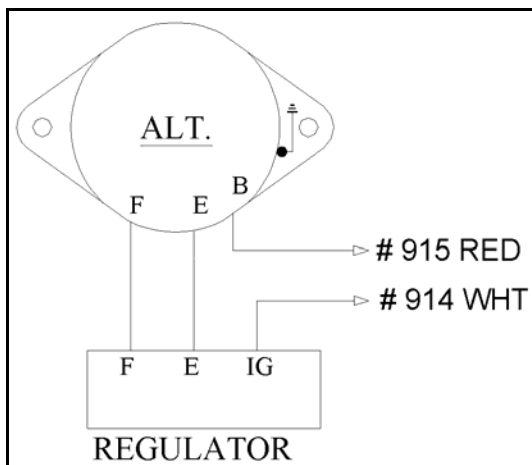

Figure 7-1 Toyota Alt. Diagram (early)
7.1 Toyota Alternator (early- 1977) See Figure 7-1
*Note: Your Alternator may not appear exactly as represented in **Figure 7-1**. The circuits are wired the same way, though.*